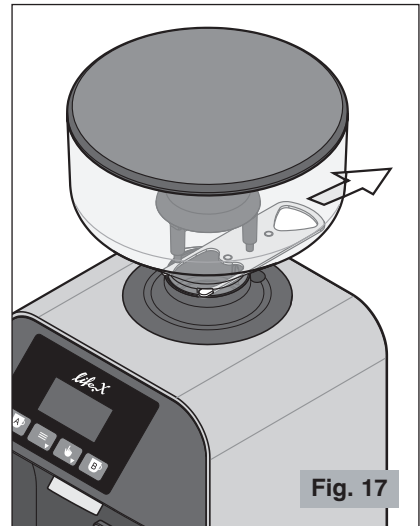

Fig. 17
-  **Make sure that shutter is completely open (to the last click) (see Fig. 17).**